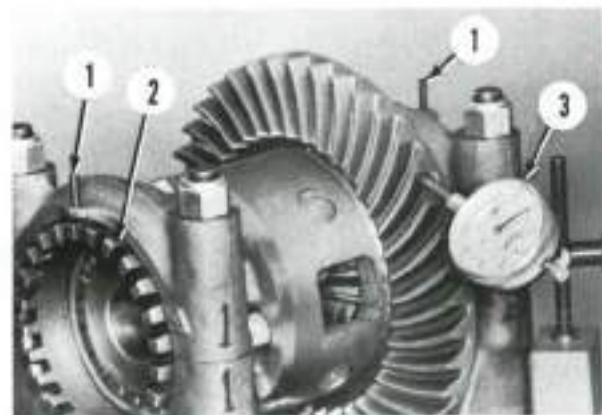

Fig. 30—Dial indicator probe should be against outer tip of ring gear tooth when measuring backlash.
**36. DIFFERENTIAL CARRIER BEARINGS AND BEVEL GEAR BACKLASH.** Pinion shaft protrusion and bearing preload must be properly set before adjusting differential carrier bearings. Install differential unit in carrier housing making certain ring gear is aligned with drain hole in carrier as shown in Fig. 29. Install bearing support caps, but do not tighten retaining nuts securely at this time. Install bearing adjuster rings and turn adjuster ring on ring gear side of differential until ring gear contacts pinion gear. Then turn adjuster ring on side opposite ring gear until all bearing end clearance is removed, but do not preload bearings. Mount dial indicator as shown in Fig. 30, then hold pinion shaft and move ring gear to check backlash. Turn adjuster rings as needed to move ring gear sideways to obtain recommended backlash of 0.15-0.25 mm (0.006-0.010 inch). Loosen adjuster ring one notch at a time and tighten opposite adjuster ring the same amount when setting backlash.
After bevel gear backlash is properly adjusted, turn adjuster ring on each side of differential clockwise two notches to provide recommended bearing preload. Tighten bearing cap mounting nuts to 210 N·m (155 ft.-lbs.) torque, then recheck for correct backlash. Drive roll pin (1—Fig. 30) into notch of each adjuster ring to secure adjustment.